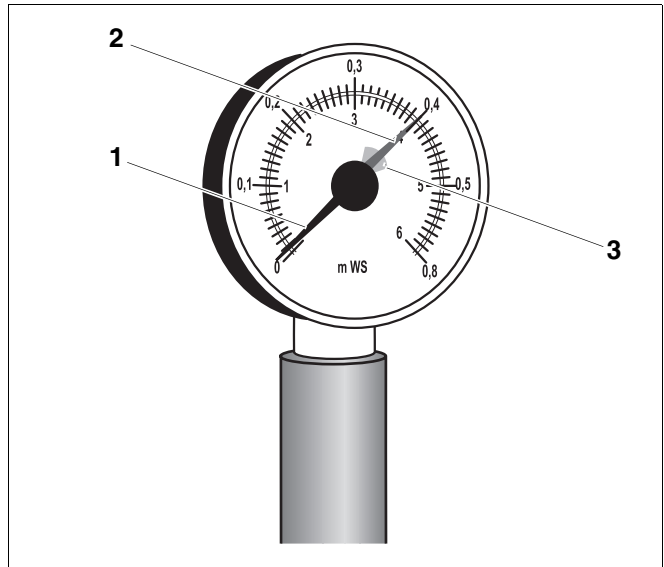

Fig. 50 Pressure gauge for open systems
On open systems the pressure gauge needle (Fig. 50, **item 1**) must be within the red range (Fig. 50, **item 3**). In open systems kettling noise may occur within the boiler. This does not damage the boiler but should be considered before installing an open system where noise can be nuisance.